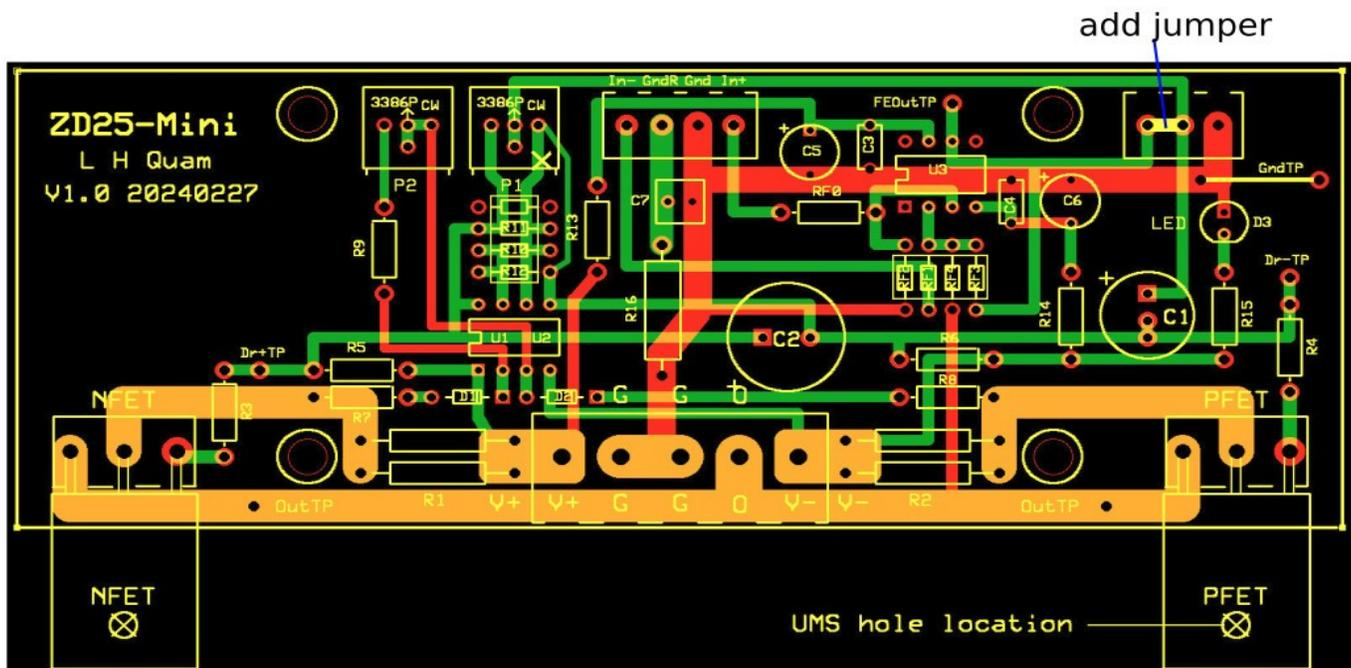

Figure 4: Printed circuit board layout. Red traces on top layer.
- There was a minor PCB artwork error that requires a jumper wire to be on the backside. See figures 4 and 5 below. This jumper is easiest to add after the components are in place.
- A jumper is required to connect the front-end output to the output stage input. See figure 4. The Custom Build Guide discusses the use of an external front-end.